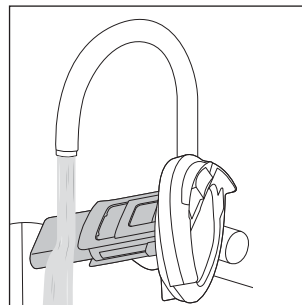

Fig. 25
- ◆ Clean the dirt filter ⑩, the float ⑧ and the lid of the waste water tank ⑨ in hot running water (see fig. 25). If necessary, use a mild detergent.